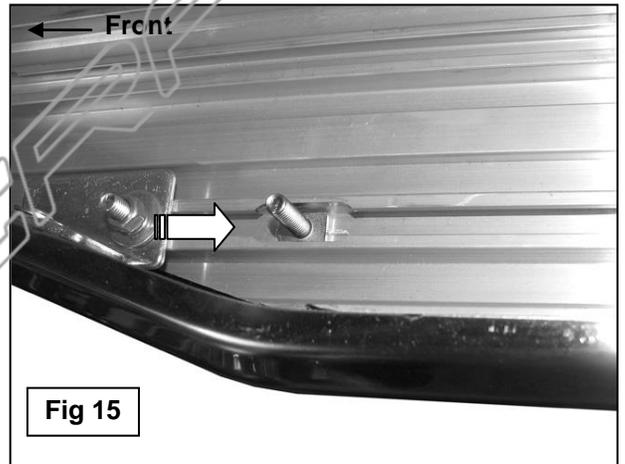
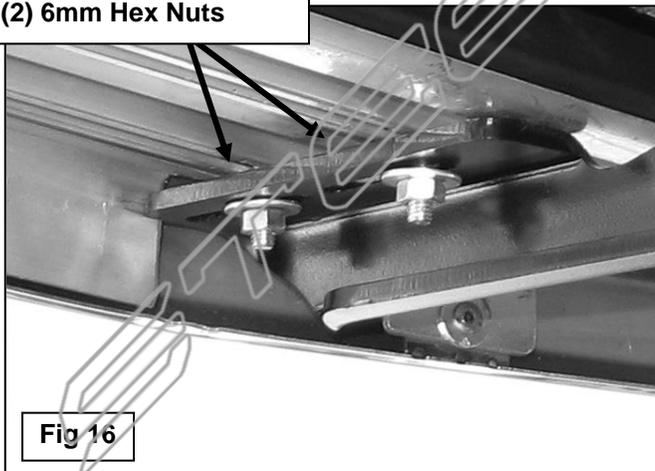

Fig 15
Fig 16
15. Carefully unwrap the driver side Running Board. From the front, slide (3) 6mm T-Bolts into each channel in the bottom of the Running Board, **(Figure 15)**. Slide the T-Bolts forward or back to line up with the slots in the (3) Mounting Brackets. Hold the Running Board up to the vehicle at a slight angle and gently push it into position against the rocker panel. Insert the T-Bolts through the slots in the Brackets but leave loose at this time. **NOTE:** It may be necessary to loosen, (but not remove), the Bracket hardware to insert the Running Board between the Brackets and the body. Once the Running Board is in the approximate position and the T-Bolts lined up with the (3) Brackets, attach the Running Board to the Mounting Brackets with the included (6) 6mm Flat Washers, (6) 6mm Lock Washers and (6) 6mm Hex Nuts, **(Figure 16)**. Do not tighten hardware.